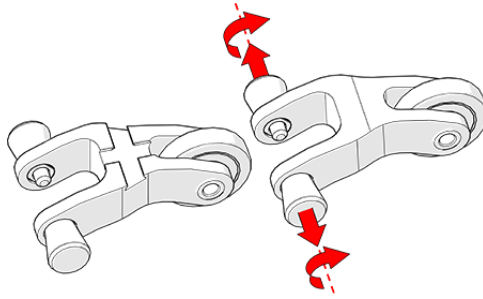

Figure 3-42 Pull out and twist pins
1. Pull the pins out from the wheels, twist a quarter turn latching the pins in a retracted state (see Figure 3-42 on page 69).